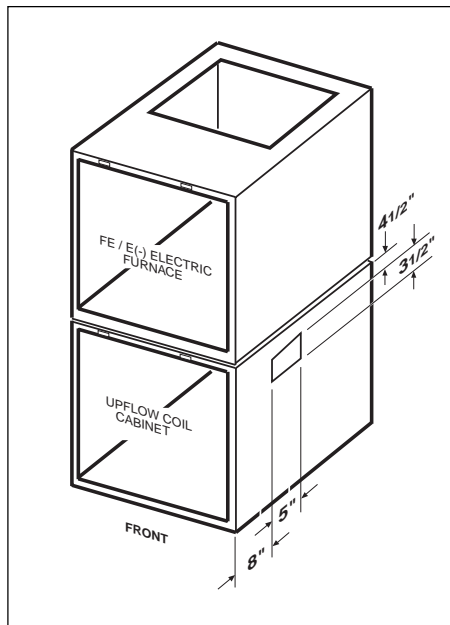

Figure 1. Upflow Installation with 912229- Coil Cabinet.
1. The duct adaptor can be attached to either side of the furnace/coil cabinet. If the coil box or furnace does not have the appropriate 3 1/2" W x 5" L knockout in the side, it must be added as shown in Figure 1 and 2. Use sheet metal snips to cut a 3 1/2" x 5" opening in the side.